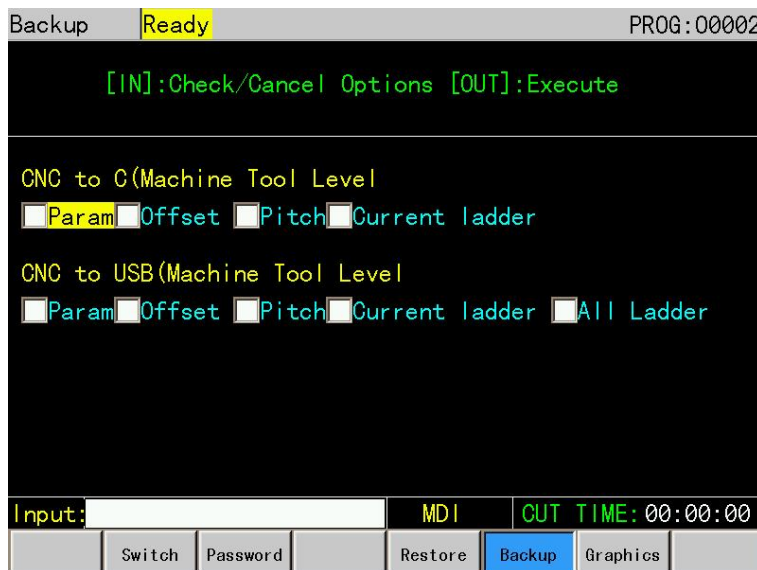

Figure 3-4-4-1
3.4.4 Data backup (See figure 3-4-4-1)